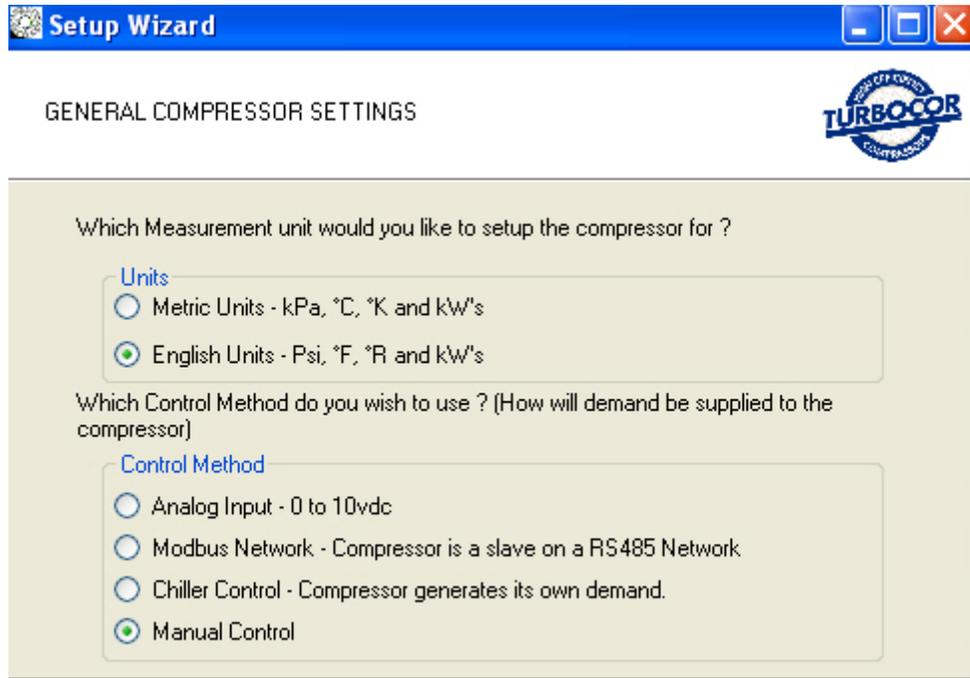

Figure 38 General Compressor Settings
3. Select the **appropriate units of measurement**: metric or imperial (see Figure 38).